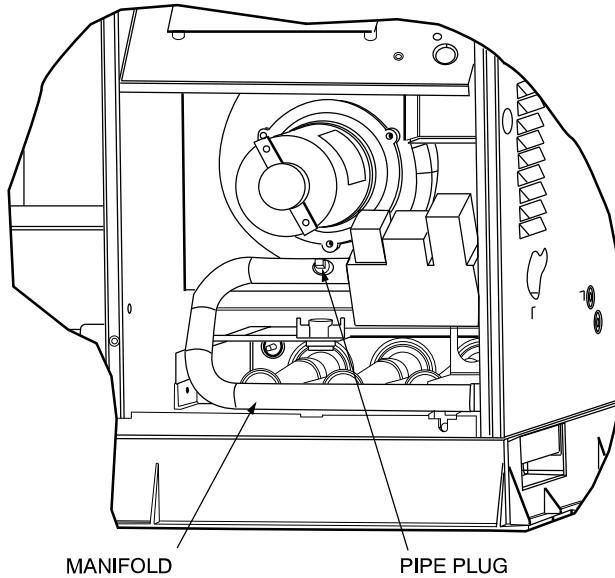

Fig. 10 – Burner Assembly
30. Remove the 1/8 in. pipe plug on the gas manifold and connect a pressure manometer (see Fig. 10).
34. Turn off unit, remove pressure manometer and replace the 1/8 in. pipe fitting on the gas manifold (see Fig. 10).